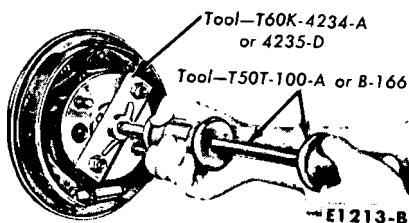

FIG. 4—Removing Axle Shaft—Integral Carrier Type Axle
3. Working through the hole provided in each axle shaft flange, remove the nuts that secure the wheel bearing retainer plate. Then pull the axle shaft assembly out of the axle housing (Fig. 4 or 5). **The brake backing plate must not be dislodged. Install one nut to hold the plate in place after the axle shaft is removed.**